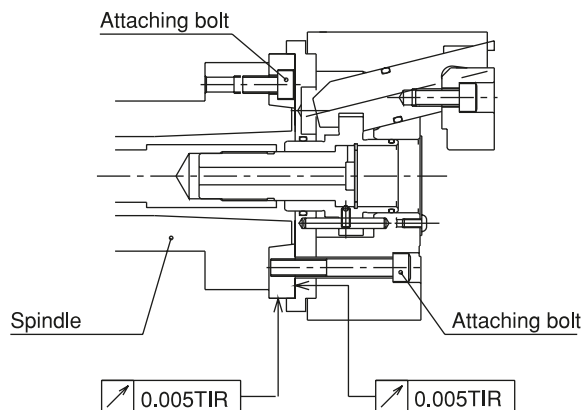

Fig. 10
- Fig.10 shows the case of the JIS short taper standard.